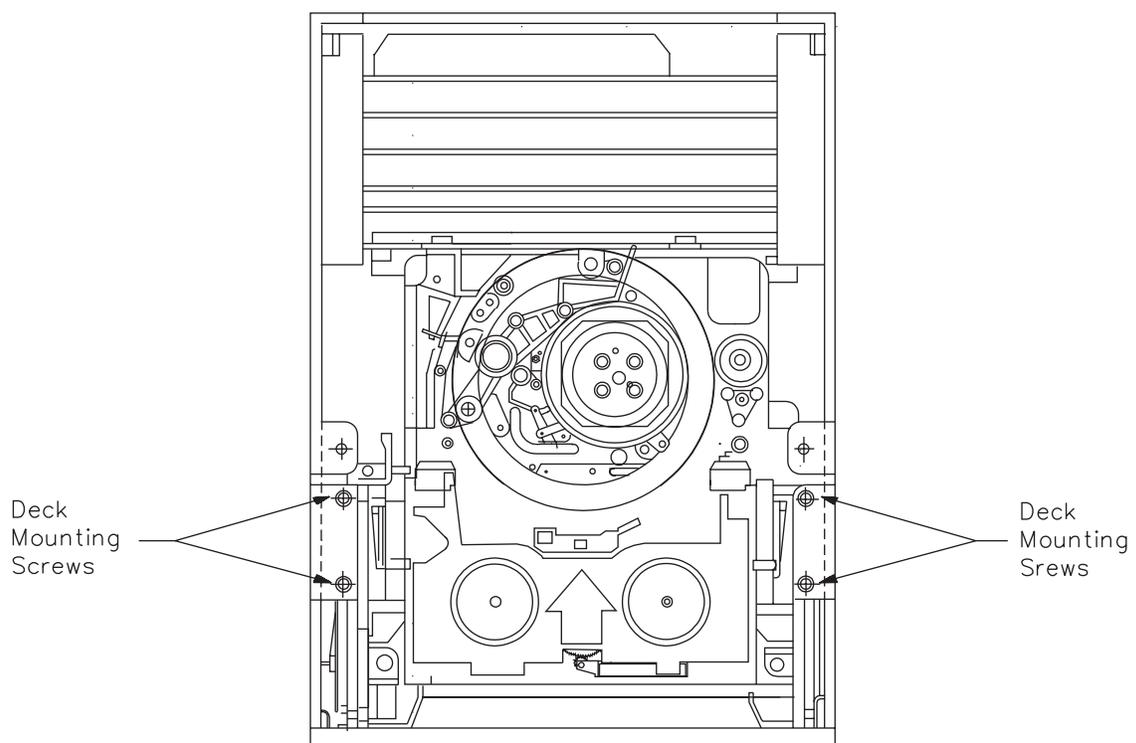

Figure 14-1
1. Remove the four Phillips screws that mount the deck to the main housing, as shown in Figure 14-1.
Location of Deck Mounting Screws (same as Figure 14-1)